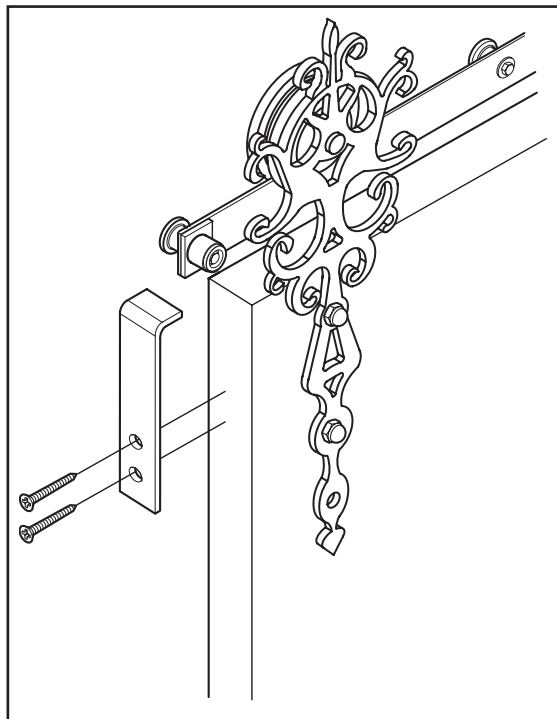

Figure 9
17. Install the bracket to the door edge with 2 phillips screws (provided) using a drill with a phillips bit (Figure 9).